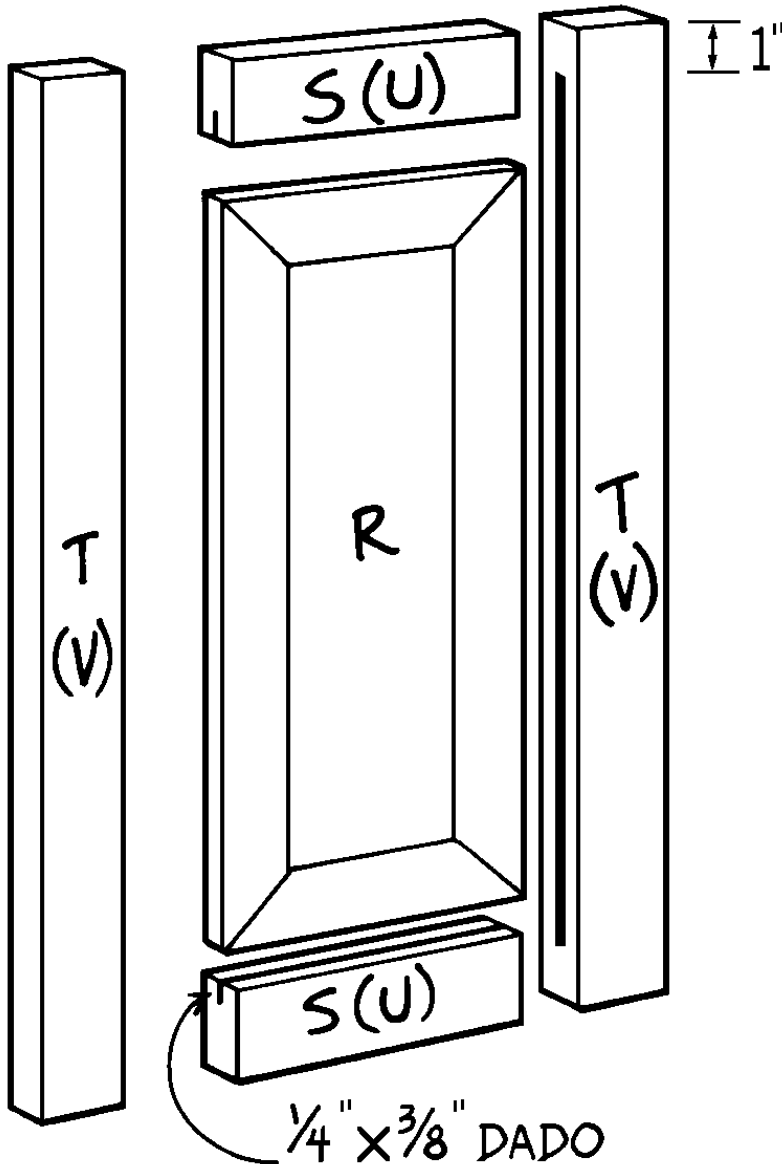

Figure 7
- Each of the two lower doors (see *Figure 7*) consists of a center panel that is beveled on all four edges and inserted into a frame. This is not difficult to do, but it requires a certain amount of
4. From the ripped 1 x 4 pine, cut two 8-3/4"-long lower top/bottom frame pieces (S) and two 26-7/8"-long lower side frame pieces (T).
5. Cut a dado 1/4" wide and 3/8" deep down the center inside edge of each of the four frame pieces (S and T) to accommodate the center panel (R). If you don't want your dados to show (what would the neighbors think?) on the outer edges of the doors, then start the dado 1" from one end of each lower side frame piece (T) and stop it 1" from the other end.
6. Place the panel (R) into the dados cut in the frame pieces to make sure that all of the pieces fit together properly. An optional step at this point is to rout a decorative design into the inside edges of the frame pieces. Because this is difficult to do with the panel installed, simply clamp the frame together securely and rout the inside edges. Then place the panel (R) inside the frame.
7. As shown in *Figure 7*, the top and bottom frame pieces (S) fit between the side frame pieces (T). Glue and clamp the frame pieces together, with the panel (R) in place but not glued into the dados. Fasten the frame together by inserting 8d finishing nails at all four corners.
2. From the ripped pine, cut two 8-3/4"-long upper top/bottom frame pieces, (U) and two 36-3/8"-long upper side frame pieces (V).
3. Glue and clamp the four frame pieces (U and V) together as shown in *Figure 7*, making sure to fit the upper top/bottom frame pieces (U) between the upper side frame pieces (V). Then drive 8d finishing nails into all four corners of the frame.